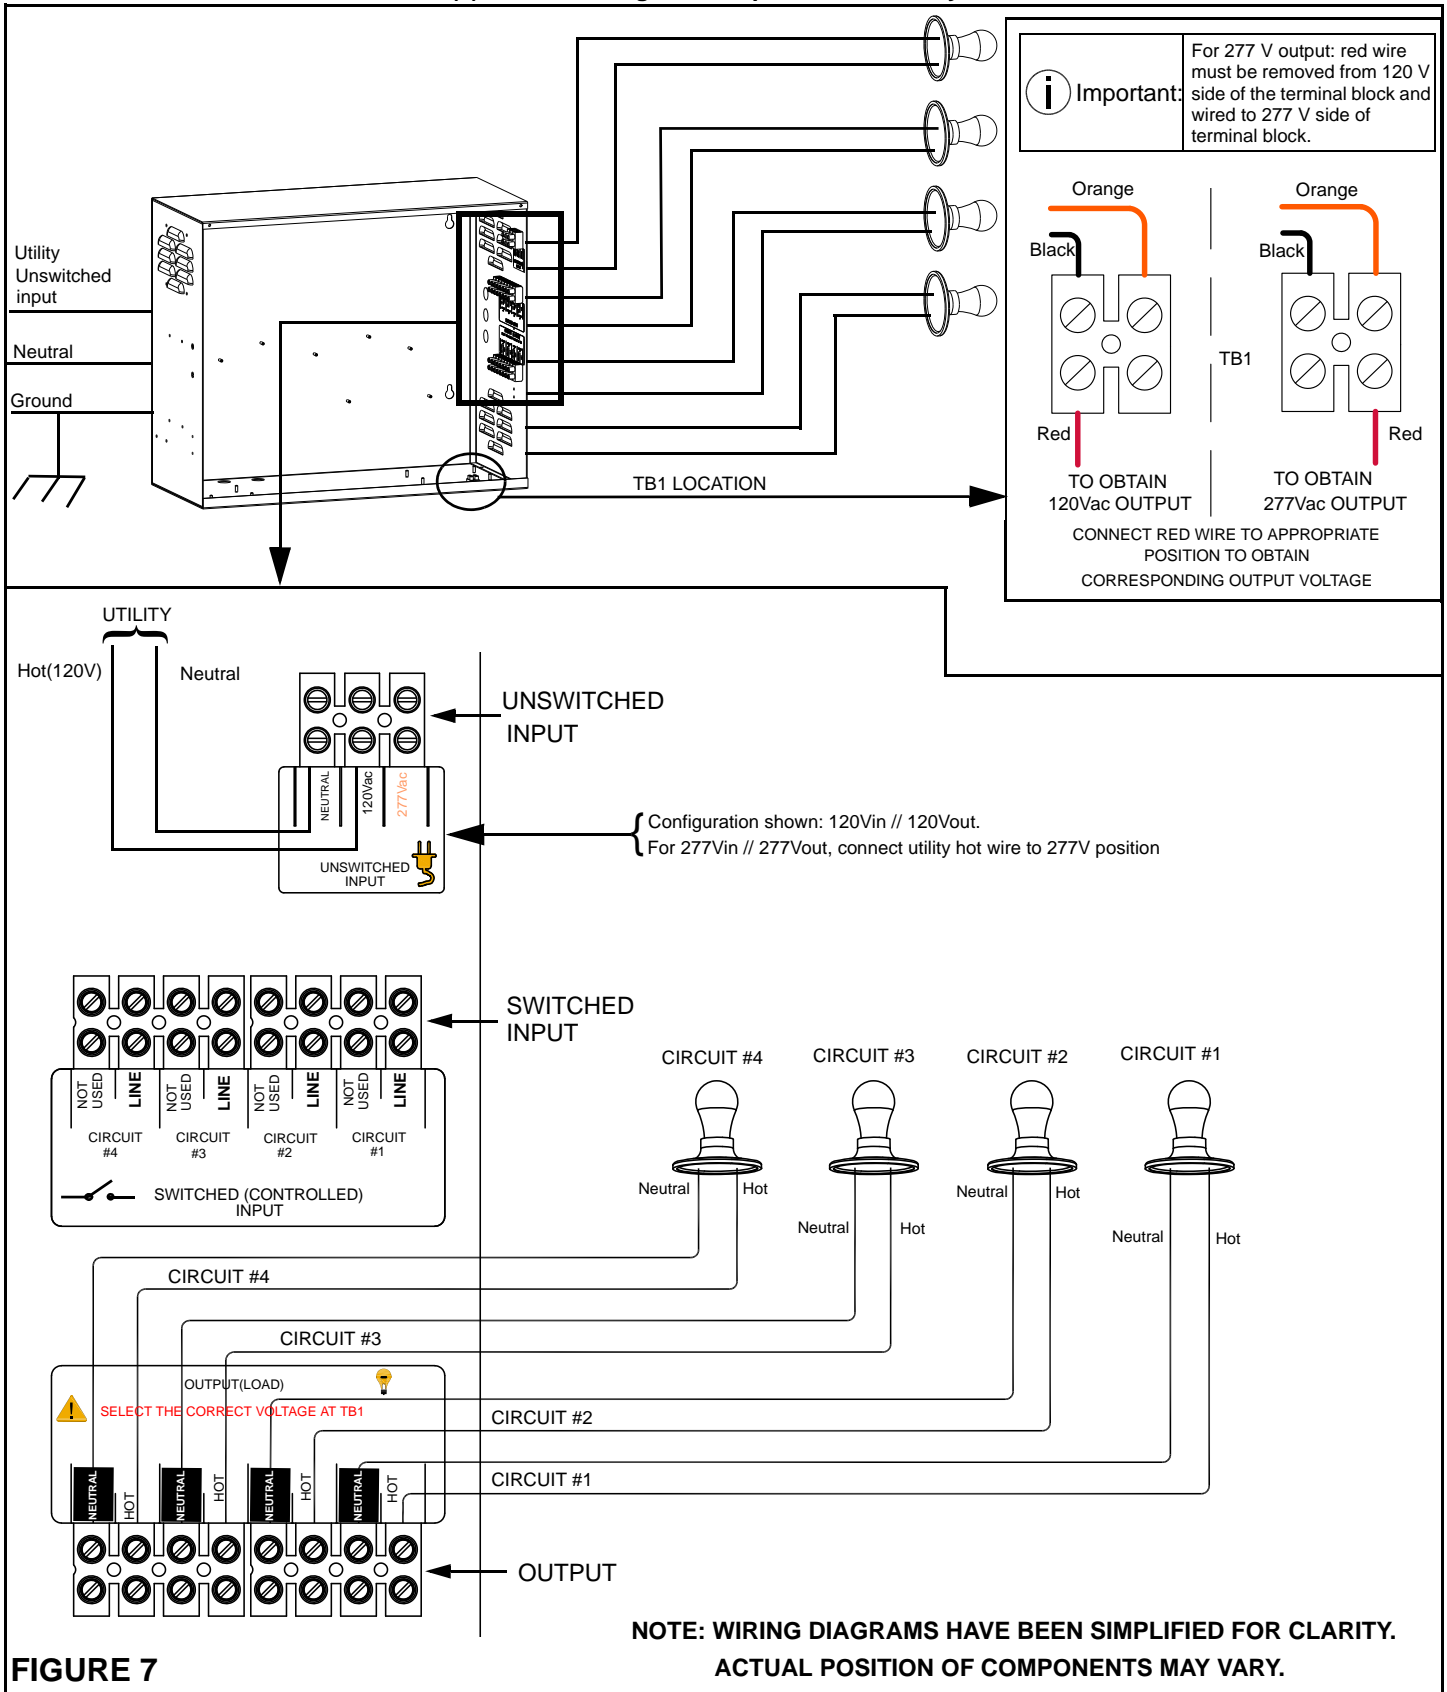

FIGURE 7
- Normally-Off Operation** (Refer to Figure 7 for wiring details) - Fixtures illuminated only upon loss of utility AC power.